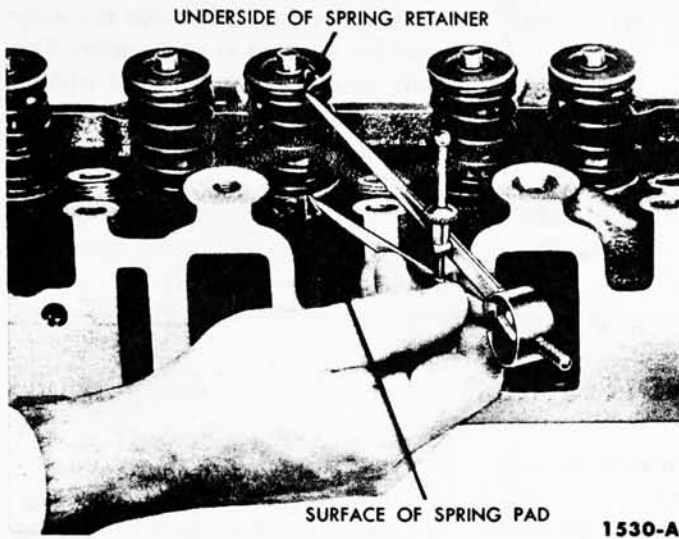

FIG. 53—Valve Spring Assembled Height
4. Measure the assembled height of the valve spring from the surface of the cylinder head spring pad to the underside of the spring retainer with dividers (Fig. 53). Check the dividers against a scale. If the assembled height is  $1\frac{5}{64}$  inches or greater, install the necessary 0.030-inch thick spacer(s) between the cylinder head spring pad and the valve spring to bring the assembled height to the recommended dimension of  $1\frac{5}{64}$ - $1\frac{5}{64}$  inches. Do not install spacers unless necessary. Use of spac-